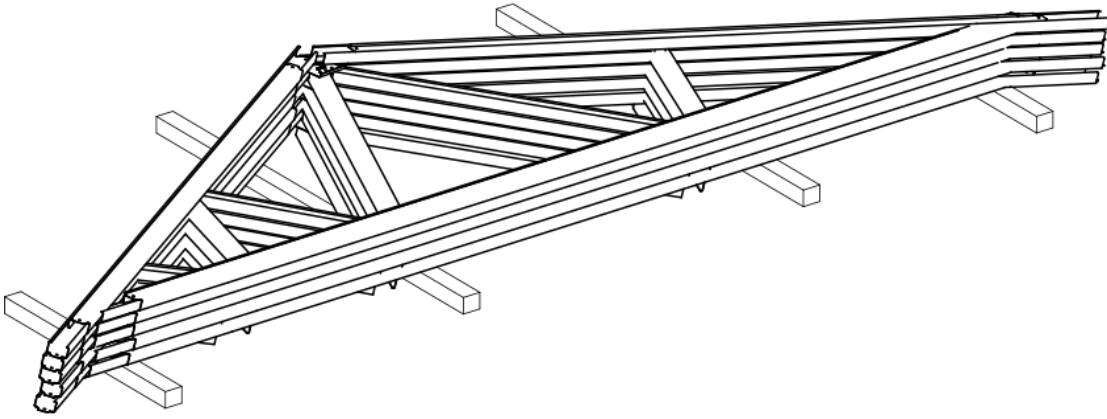

Figure 2.2 Trusses stacked horizontally
1. If the trusses are stored horizontally, as shown in Fig. 2.2, the blocking should be at 2.0m to 2.5m centres or as required at joints, to prevent bending of the trusses. Avoid using copper, chemically treated timber or EPDM based materials as blocking.